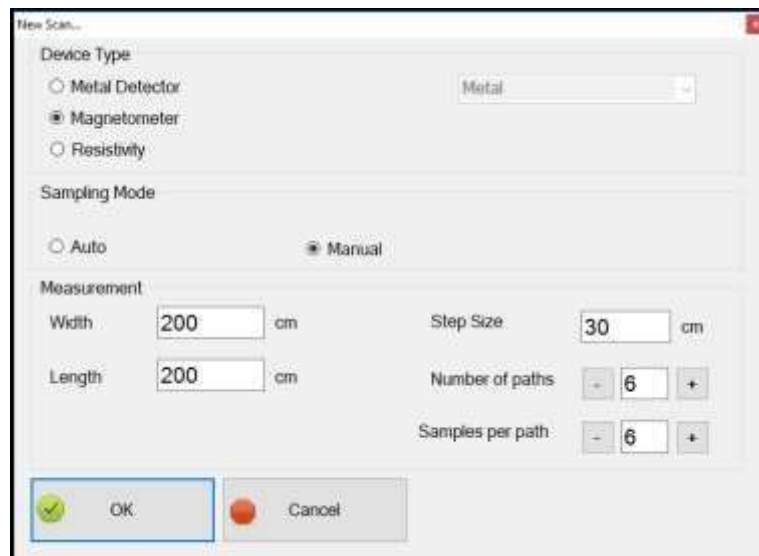

Figure 13
5. Gradiometer Figure 13 the part with the part in the window that opens should be selected.